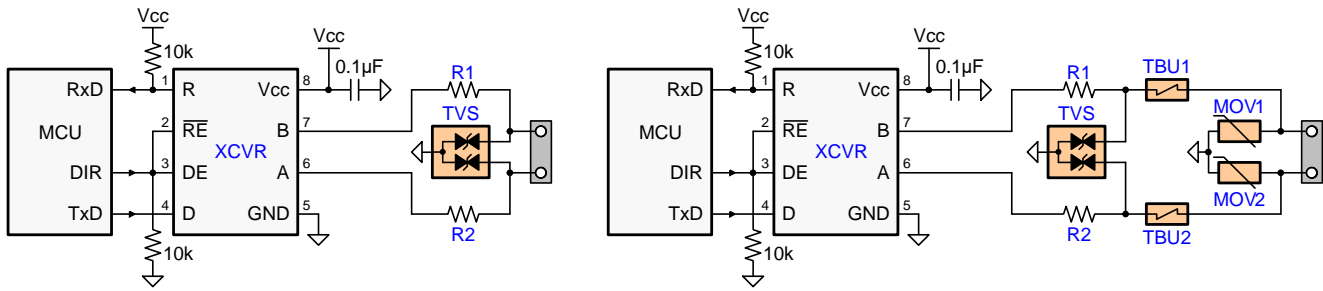

Figure 26. Transient Protections Against ESD, EFT, and Surge Transients
To protect bus nodes against high-energy transients, the implementation of external transient protection devices is necessary. Figure 26 suggests two circuits that provide protection against light and heavy surge transients, in addition to ESD and EFT transients.
While the transient protection is similar to the one in Figure 26 (left circuit), an additional high-voltage capacitor is used to divert transient energy from the floating RS-485 common further towards Protective Earth (PE) ground. This is necessary as noise transients on the bus are usually referred to Earth potential.